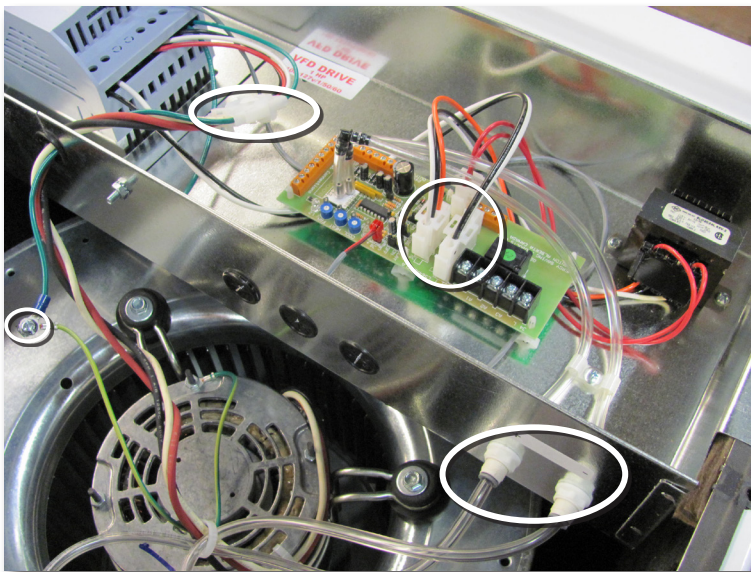

Fig. 14
14. Double check that all wires and pressure tubes are connected. (Fig. 14)